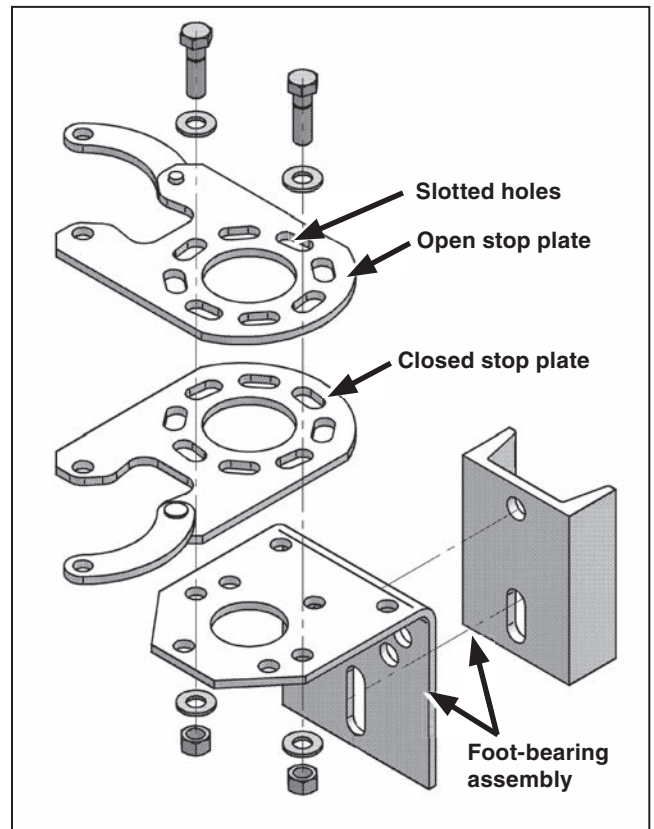
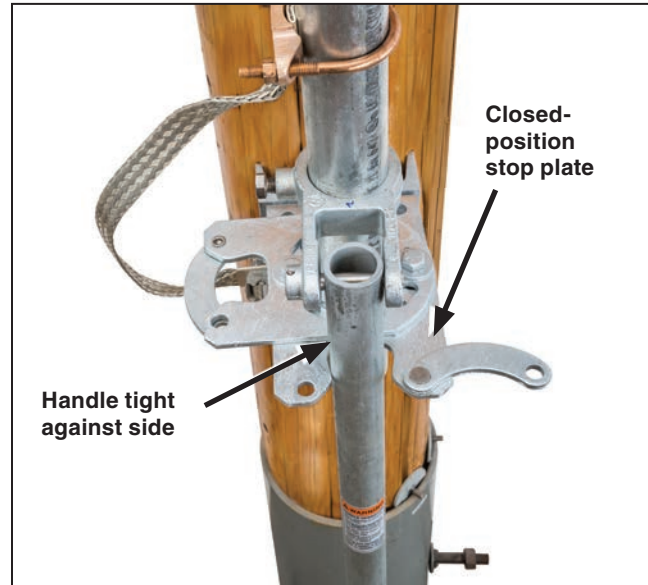
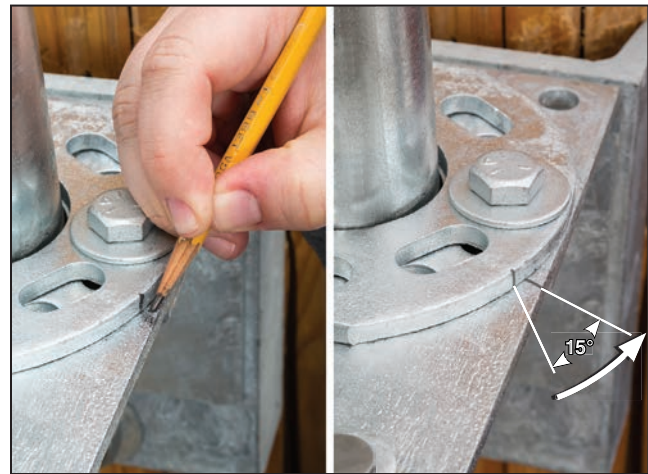

Figure 29. Stop plates and foot-bearing assembly—exploded view.
Figure 30. Adjust the closed-position stop plate.
Figure 31. Mark position of the closed stop plate. Rotate 15 degrees.
STEP 26. The stop-plate holes are slotted to allow room for adjustment. Loosen the bolts that secure the adjustable stop plates to the two-piece foot bearing support plate. See Figure 29. Place the switch in the fully **Open** position and adjust the open position stop plate so the handle, when lowered, fits into the open-position slot. Mark on the support plate the location of the open-position stop plate. See Figure 31 on page 24.
- (a) Loosen the hardware securing the closed stop plate. See Figure 29 on page 23.
- (b) The stop-plate holes are slotted to allow room for adjustment. Position the operating handle in the stop plate and turn the operating handle as far as it will go in the closed position (Counterclockwise is standard on switches using the rotating operating mechanism.) The handle should be tight against the edge of the stop plate as shown in Figure 30. Mark the position of the closed stop plate. See Figure 31 (left).
- (c) Lift the handle out of the way and rotate the stop plate an additional 15 degrees counterclockwise from the mark. Make sure the open stop plate lines up with the mark made in Step 26. Tighten the stop plate hardware to 40 ft-lbs. See Figure 31 (right).